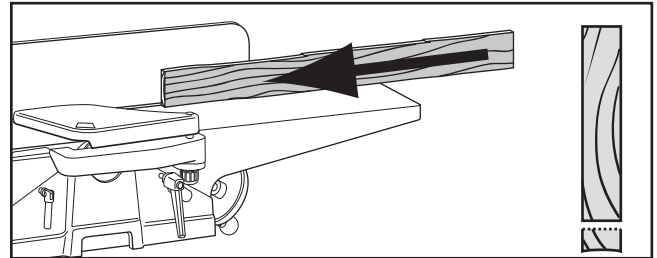

Figure 23. Edge jointing on the jointer.
3. **Edge Joint on the Jointer:** The concave edge of the workpiece is jointed flat with the jointer (see **Figure 23**).